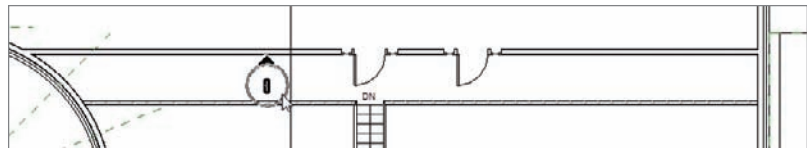

FIGURE 10.77 Pick the point as shown for the elevation.
4. Place it in the corridor wall aligned with the stairs, as shown in Figure 10.77.
5. Copy the door 10'-0" to the right, as shown in Figure 10.77.
8. Pick a point, as shown in Figure 10.77; then press Esc.